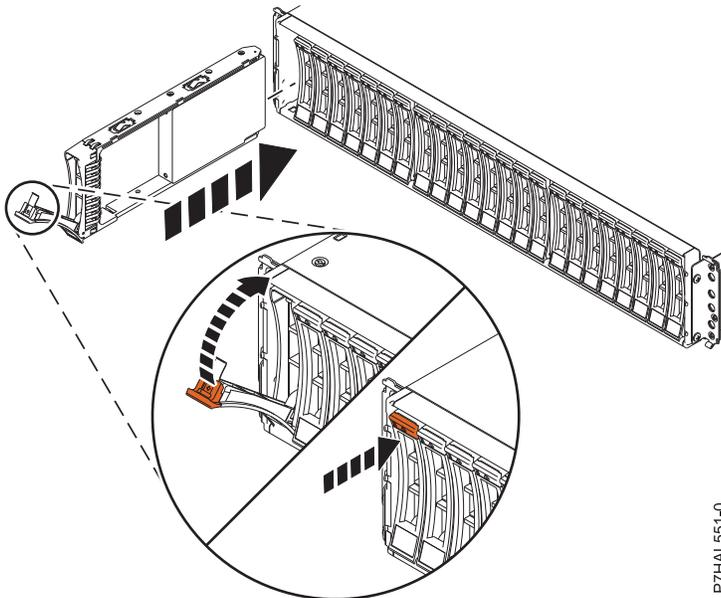

Figure 13. Installing the disk drive in the 5887 expansion unit
1. With the handle in the unlocked position, see Figure 13 on page 30, support the bottom of the disk unit as you align it with the guide rails in the expansion unit. Do not hold the disk unit solely by the handle.